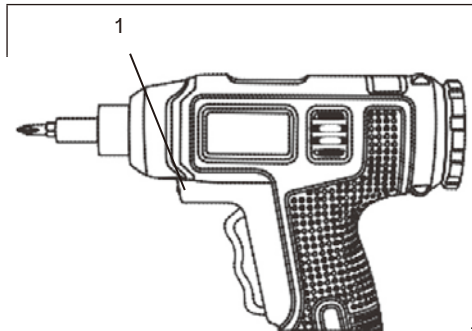

Fig. 6
The LED work light (1) will automatically turn ON when the trigger switch is activated (Fig. 6). It will automatically turn OFF when the trigger switch is released.